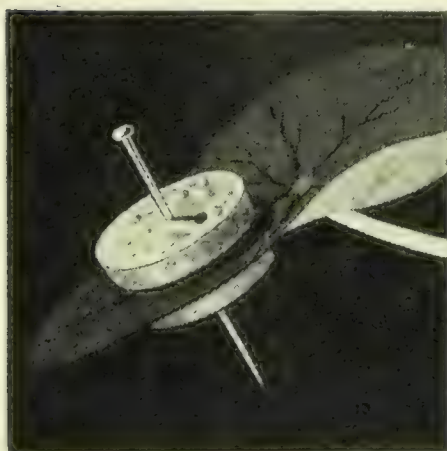

FIG. 99. Experiment 37
*Experiment 37. DO LEAVES NEED LIGHT IN ORDER TO MAKE STARCH?* Obtain a healthy nasturtium or geranium plant. Place it in the dark for at least two days. Then pin two thin pieces of cork or black paper on the two sides of a leaf as shown in Figure 99. (Fix two or three leaves this way.) If the leaf is too heavy to hold itself up, prop it up. Set the plant in bright sunlight for several hours. Then break off the leaf, and dip it in boiling water for a short time. The heat kills the leaf and makes the rest of the experiment work better.